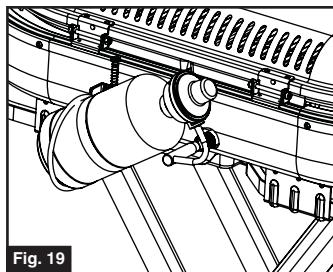

Fig. 19
- Place cylinder into cylinder support. (Fig. 19)